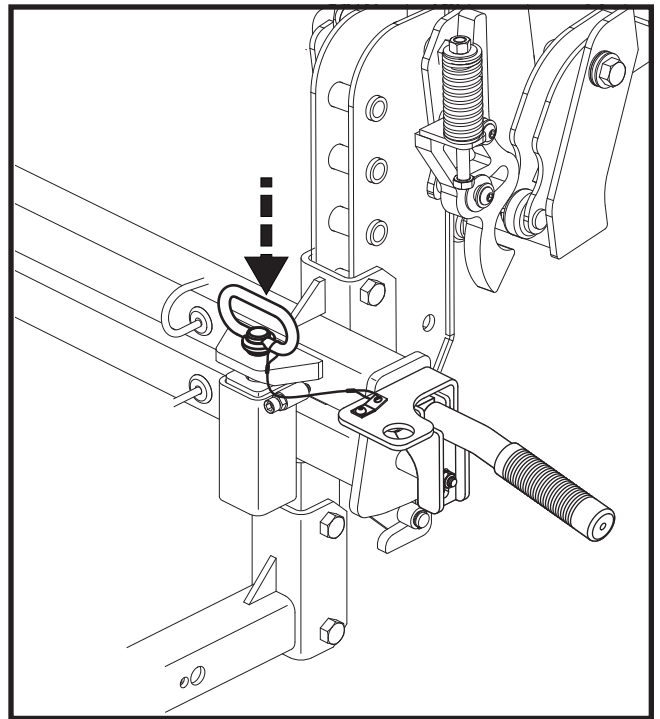

Figure 19. Secure Swing-away Adapter
2. Align swing-away adapter over receiver and latch as shown in **figure 19.**